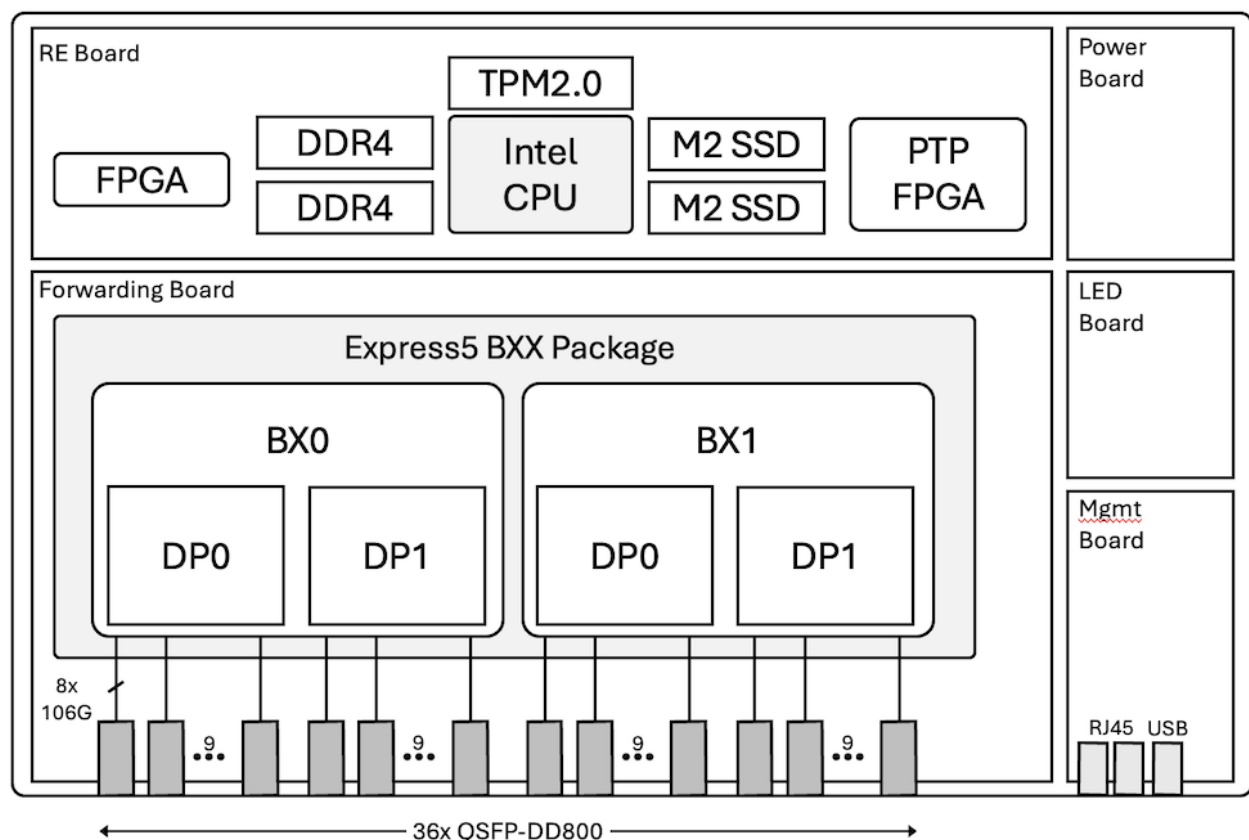

Figure 7: PTX10002-36QDD Block Diagram
As illustrated in Figure 7, the architecture is very simple: we don't rely on any intermediate components such as Reverse GearBox (RGB) to connect the optical cages to the Packet Forwarding Engine Port Groups (PG).